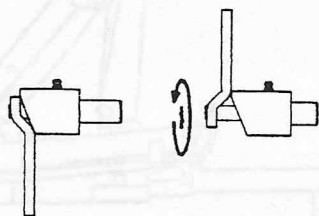

Fig.1
- A) Release the beam stop device (Fig.1)